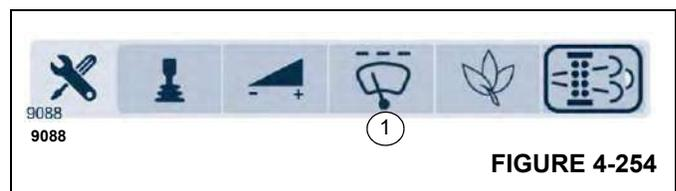

FIGURE 4-254
Select and confirm the symbol (1), (Figure 4-254).